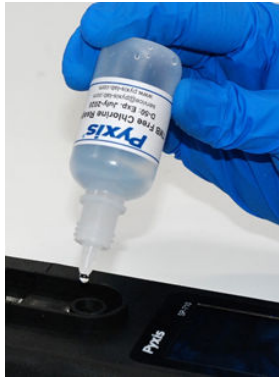

Figure 9.
- (a) Add 3 drops of Free or Total Chlorine reagent into the sample cell (Figure 9).